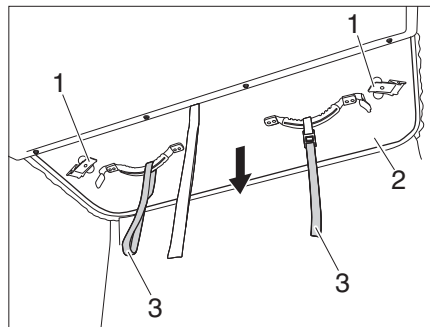
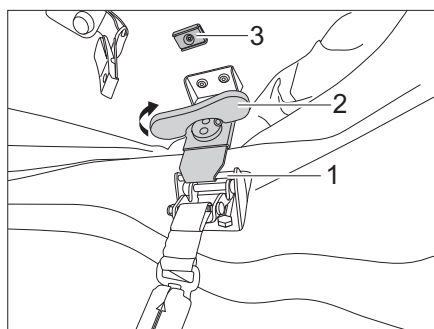

Fig. 15 Pulling the pop-up roof downwards
Fig. 16 Tensioning the locking mechanism
- ▷ In order to avoid possible damage to the tent fabric fasten the locking lever (Fig. 15,1) at the top to the magnet (Fig. 16,3).
- ▷ Before starting your journey, check whether the locking levers of the latches (Fig. 16,1) on the left and right are correctly tensioned. If necessary, adjust the lock according to the instructions from the manufacturer.
- Check whether the locking mechanism are secured by the magnets (Fig. 16,3).
- **Slowly** pull the pop-up roof (Fig. 15,2) downwards at the pulling devices (Fig. 15,3) while looking to the rear and ensure that the cloth bellow falls neatly towards the inside.
- Loosen the locking lever (Fig. 15,1) from the magnet (Fig. 16,3) and attach it into the catch (Fig. 16,1).
- Turn the twist grip (Fig. 16,2) of the locking mechanism clockwise until the locking mechanism is fastened.
- Fold the twist grip (Fig. 16,2) upwards.
- ▷ If the locking levers (Fig. 15,1) move excessively and the pop-up roof cannot be properly shut, adjust the latch as described in section 12.3.2.